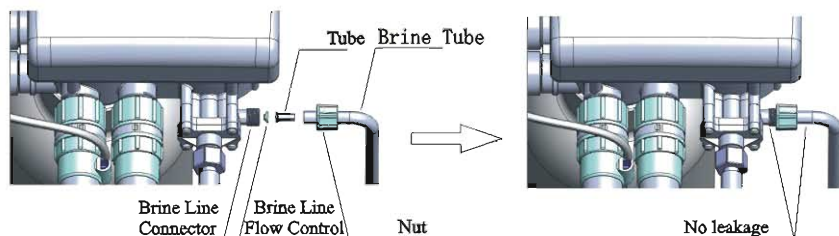

Figure1-5
- As Figure1-5 shows, slide 3/8" brine tube hose connector over end of brine tube.